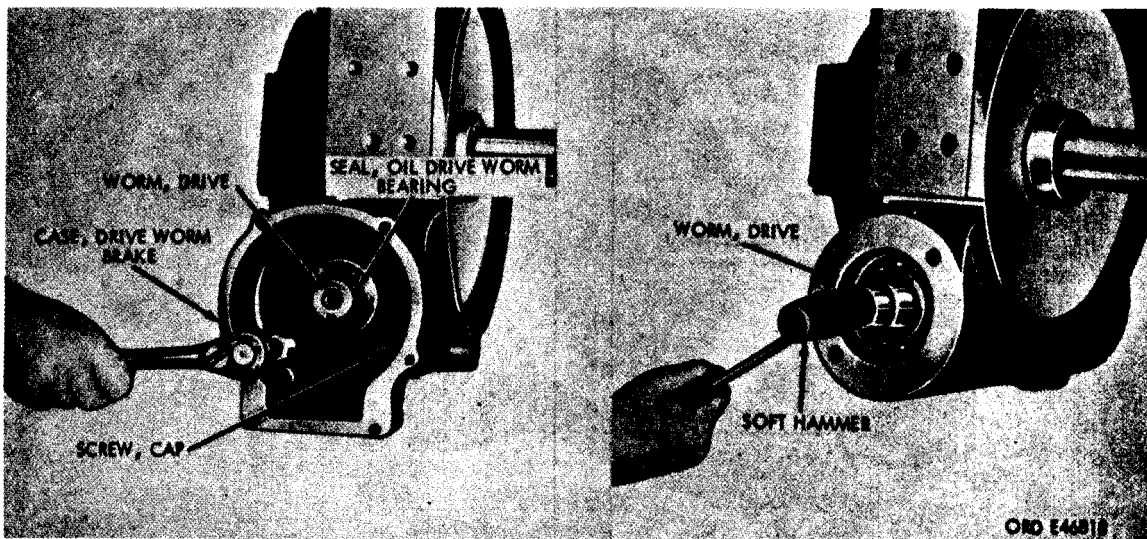
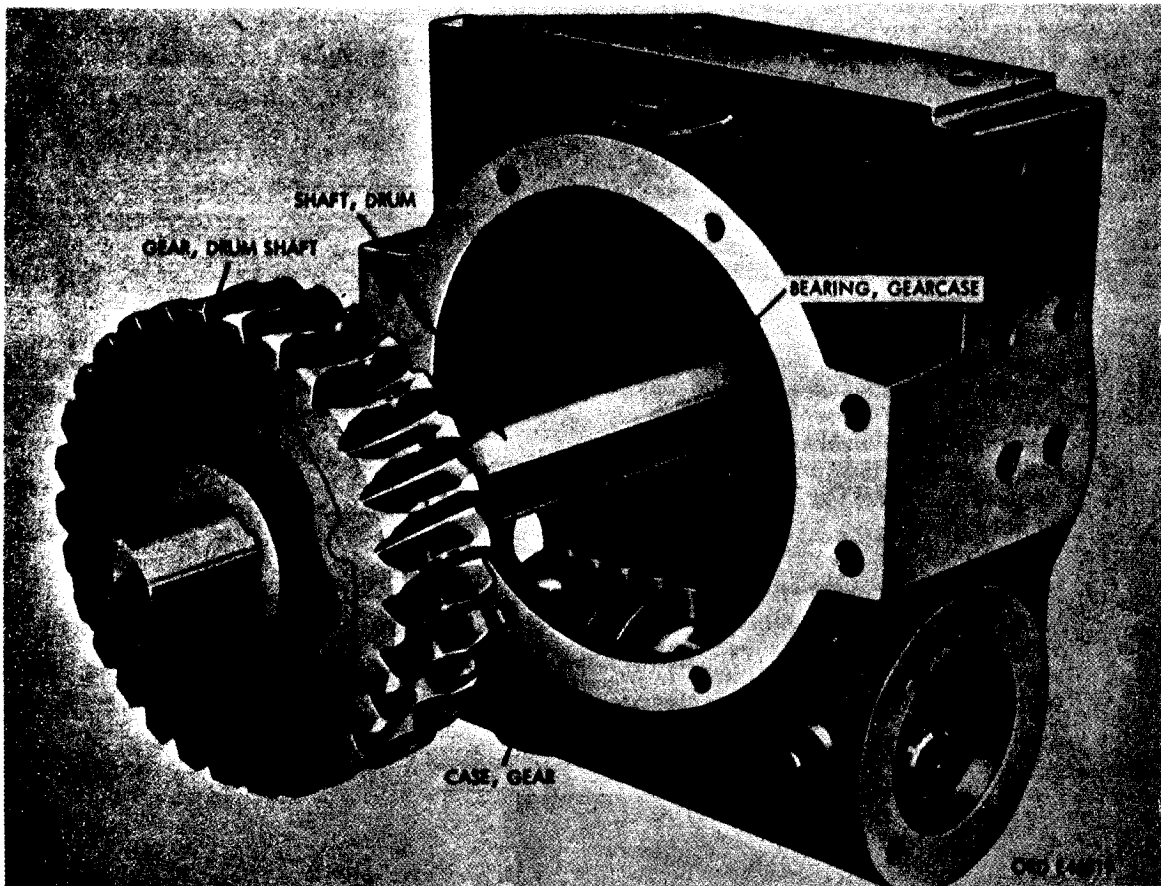

Figure 48. Removing drive worm brake case and freeing drive worm assembly
Figure 49. Removing drum shaft and gear assembly from case
(f) Remove four cap screws and lockwashers and remove drive worm brake case (fig. 48) with drive worm bearing oil seal, and gasket.
(a) Using a soft hammer, tap drive worm (fig. 48) with bearings at drive worm brake end and drop drive worm in gearcase.
(b) Pull drum shaft and gear assembly (fig. 49) from gearcase.
- (1) Press new gearcase bearing (fig. 49) in gearcase. Assemble drum shaft and gear assembly in position in gear housing.
- (2) Install ball bearing on tapped hole end of drive worm. Slide drive worm into gear housing and mesh drive worm thread with drum shaft gear (fig. 49) and tap bearing into position in housing. If oil seal in drive worm brake case (fig. 48) was removed, press new seal into place.